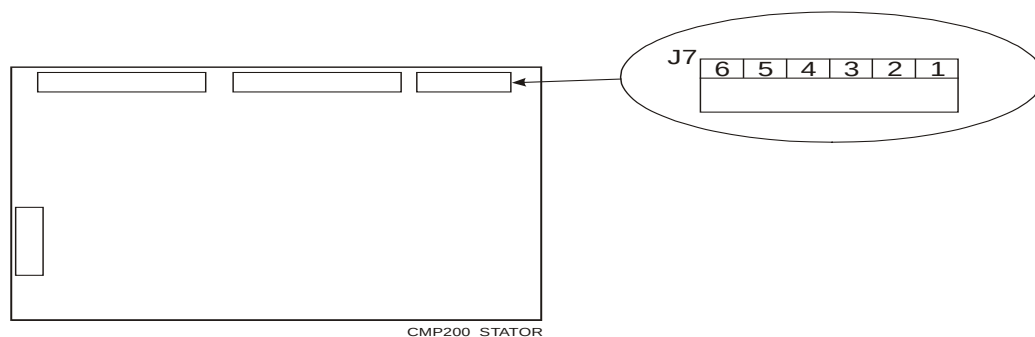

Figure 2-5: Stator / thermal switch connections on H.V. auxiliary board (low speed starter)
Refer to figure 2-5 for the X-ray tube stator and thermal switch connections for the low speed starter.
1. Route the X-ray tube stator cable to the stator terminal block J7 on the H.V. auxiliary board. This is shown in figure 2-5.